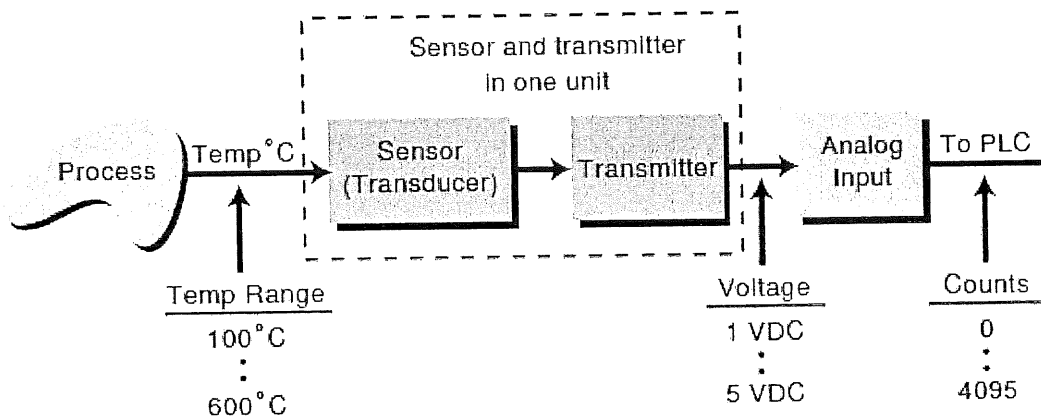

Figure 4
- b) An input module, which is connected to a temperature transducer, has an ADC with a 12 bit resolution. When the temperature transducer receives a valid signal from the process (100 to 600°C), it provides via a transmitter, a +1 to +5 VDC signal compatible with the analogue input module. Please refer to figure 4.